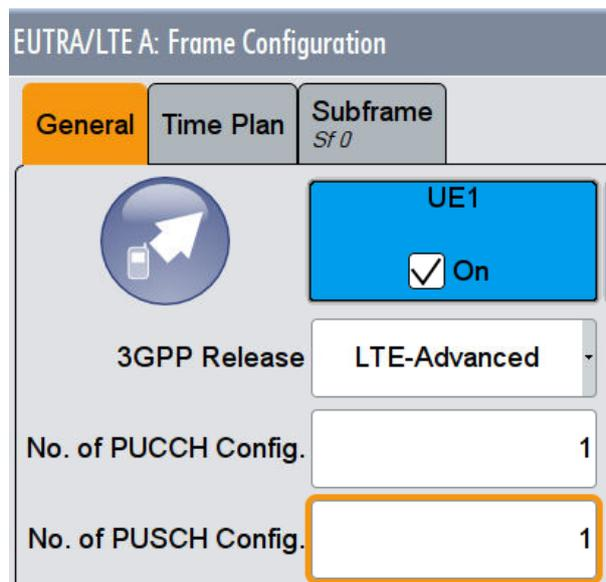

Fig. 3-106: Set one configurable PUCCH subframes for the interferers
12. Set **No of PUCCH Config** to 1 (Fig. 3-106), because all interferer transmit continuously.